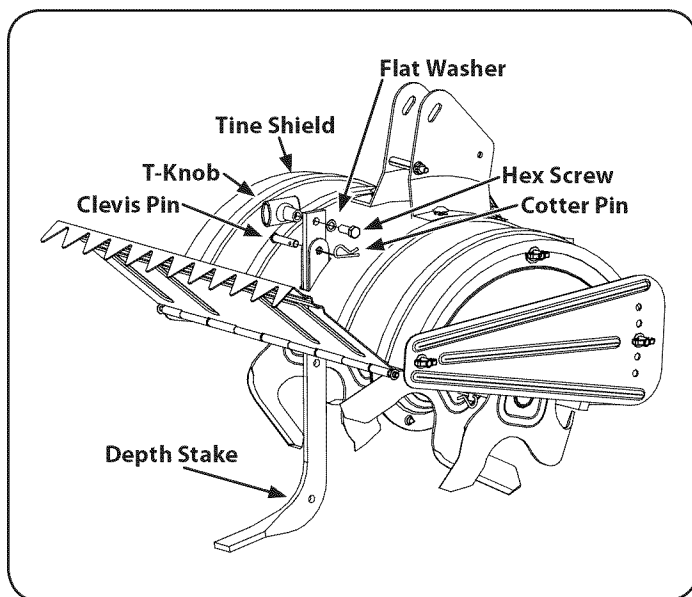

Figure 1
2. Unthread the T-knob from the top of the depth stake and remove the flat washer and hex screw. Remove the cotter pin from the clevis pin. See Figure 1.
5. Insert the hex bolt into the top hole of the depth stake assembly. Place the flat washer on the hex bolt and thread the T-knob onto the hex bolt. Tighten securely. See Figure 1.